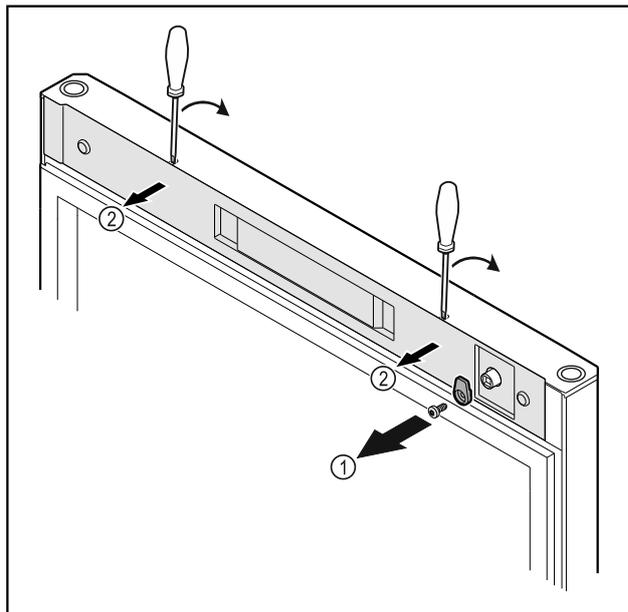

Fig. 18
- ▶ Unscrew the door latch Fig. 18 (1).
- ▶ Unlatch the cover Fig. 18 (2) with a small screwdriver and remove it.